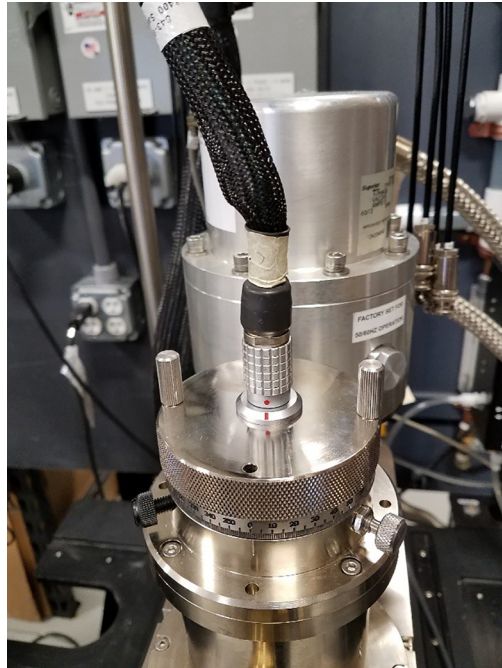

FIGURE 4-41 Model 84016 cap installed with the 22-pin CCR insert cable attached
8. Insert the Model 84016 cap (see FIGURE 4-41). Tighten the thumbscrews to seal the sample space.